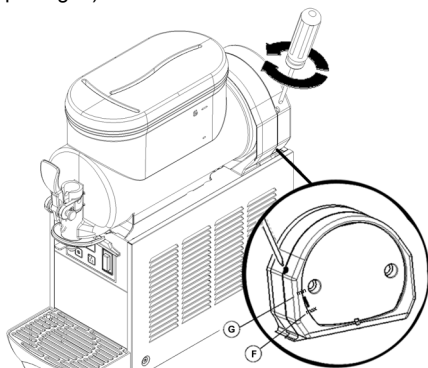

figure 2
- 1 **Granita viscosity adjustment:** proper Granita viscosity is factory preset. To change the viscosity, if needed, use a standard screwdriver to turn the adjustment screw located in the rear wall of each container as follows (see figure 2):